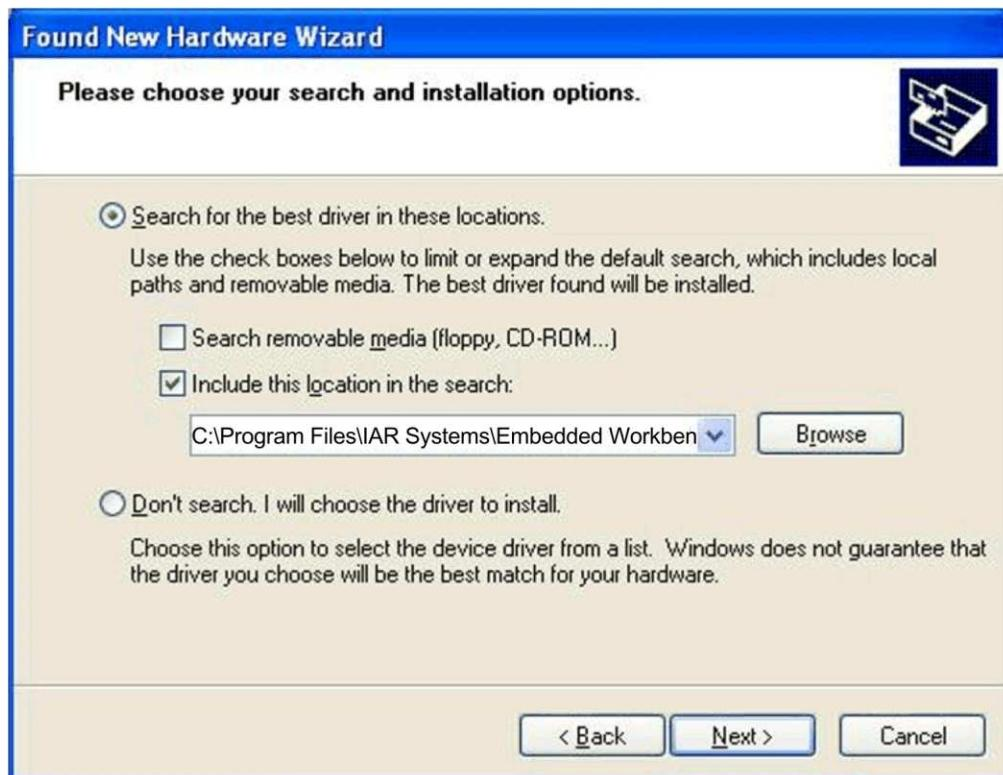

Figure C-3. Windows XP Driver Location Selection Folder
6. Browse to the folder where the driver information files are located (see Figure C-3).